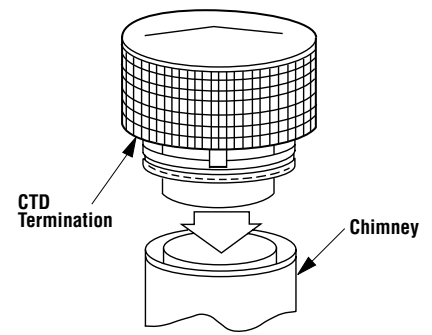

Figure 40
1. Hold FTF8-CTD over top of last chimney section (Figure 40).